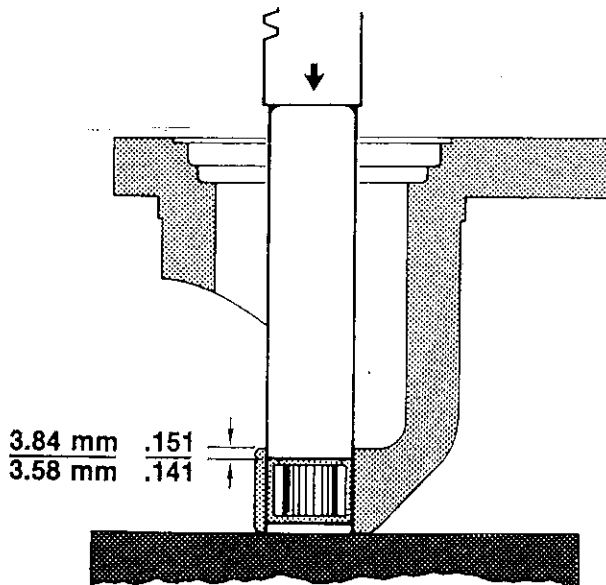

Figure 3.22
20. Press the drive housing bearing (36) into the drive housing adapter to depth shown in Figure 3.22.